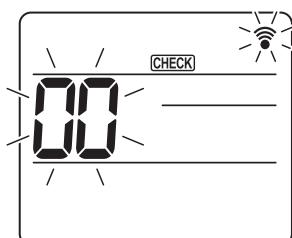
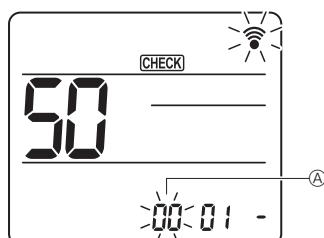
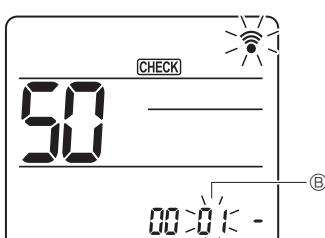
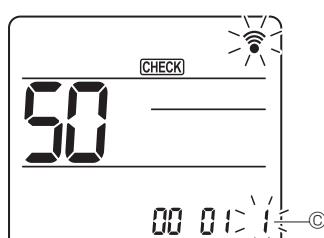

Fig. 7-18
Fig. 7-19
Fig. 7-20
Fig. 7-21
7.4.2. By wireless remote controller (Fig. 7-18, Fig. 7-19, Fig. 7-20, Fig. 7-21)
- ① Going to the function select mode
[CHECK] is lighted and "00" blinks. (Fig. 7-18)
Press the **Ⓑ** button to set unit number Ⓑ. (Fig. 7-19)
Press the **Ⓒ** button to set Mode number Ⓒ. (Fig. 7-20)
Use the **Ⓓ** button to change the Setting number Ⓓ. (Fig. 7-21)